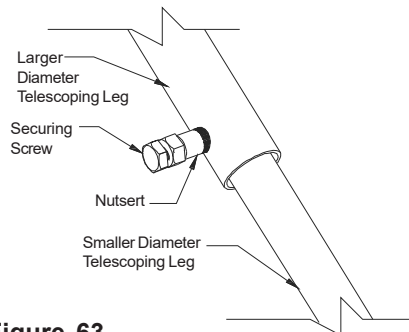

Figure 63
- F. Assemble the telescoping tubes by inserting the smaller diameter into the larger one. Tighten the bolt (securing screw) which locks the two tubes together very firmly (see Figure 63). Repeat for the other telescoping leg assembly.